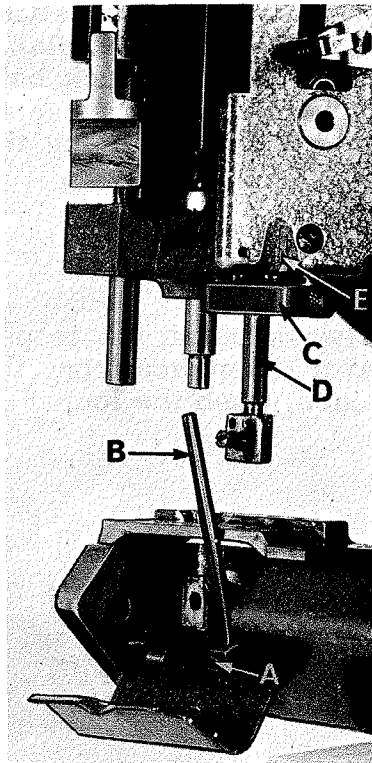
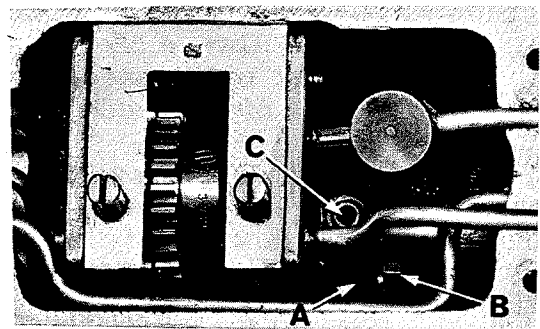

Fig. 3
Fig. 4
To synchronize the machine, remove the needles, presser foot, throat plate and feed dogs. The upper feed roller mechanism **MUST** be removed on Styles 35800 DK, DL and DN machines. Rotate handwheel in the operating direction until the needle bar is at the bottom of its stroke and just begins its upward travel. Loosen screw (A, Fig. 3) and remove the looper for the left hand needle from the looper holder. Insert a straight steel rod (B) 5/32 or 11/64 inch diameter by 2 1/2 inches long into looper holder and retighten screw (A). It may be necessary to re-position the looper holder so that the rod (B) will be in a vertical position when at its farthest travel to the right. Rotate the handwheel until the rod is at extreme left, re-install the throat plate. Turn the handwheel in the operating direction, raising the needle bar until the rod (B) comes in contact with the edge of the throat plate. At this point, clamp Union Special timing gauge No. 21225 H (C) around the needle bar (D), flush against the underside of the machine casting (E). Rotate handwheel in the opposite direction until either the gauge contacts the machine casting on the upstroke of the needle bar or the rod contacts the edge of the throat plate. Maximum allowable clearance between gauge and casting or rod and throat plate is .005 inch.
Both ends of the adjustable split coupling are secured to the crankshaft and main shaft by spot screws and set screws. On the main shaft end of the coupling (A, Fig. 4) three screws (B) thread horizontally through the coupling. The holes in the main shaft end of the coupling are drilled several thousandths larger than the diameter of the screws, permitting several degrees of rotation in either direction to properly synchronize the needle and looper. Loosen the three horizontal clamp screws (B, Fig. 4) and with the rod (B, Fig. 3) at its farthest position to the left, barely tighten the uppermost horizontal clamp screw enough to hold the coupling (A, Fig. 4) in position. If the handwheel is turned in reverse of operating direction and the gauge (C, Fig. 3) on the needle bar (D) contacts the machine casting (E) before the rod (B) contacts the edge of the throat plate, loosen the horizontal clamp screw which was barely tightened, while holding the coupling in place by the set screw (C, Fig. 4) with an Allen wrench. Rotate the handwheel **SLIGHTLY** in reverse of operating direction, snug the uppermost horizontal clamp screw and use shim gauge to insure no more than .005 inch exists
between gauge and casting or between rod and throat plate, in both the operating and reverse directions of the handwheel. If the handwheel is turned in reverse of operating direction and the rod contacts the edge of the throat plate before the clamp gauge contacts the machine casting, adjust as before, except turn the handwheel SLIGHTLY in the operating direction while holding the main shaft end of the coupling by the set screw with the Allen wrench. When this setting has been made, tighten the three horizontal clamp screws (B, Fig. 4) securely, and recheck both clearance points with .005 inch shim gauge to assure no slippage occurred while tightening the screws.